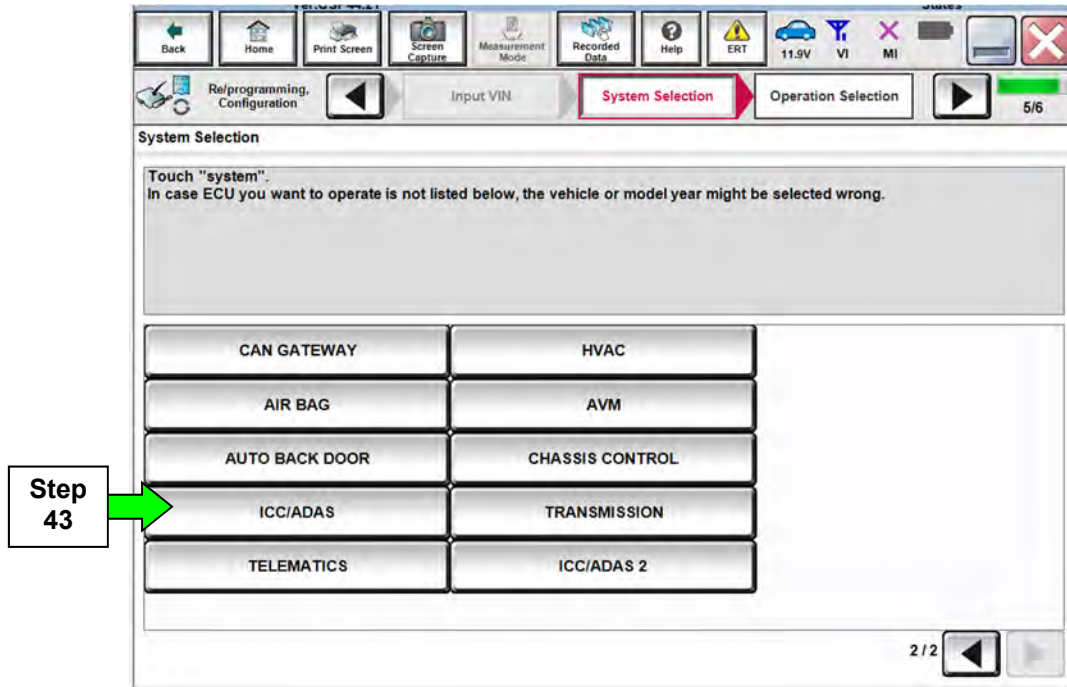

Figure 25
42. Refer to steps 1-17 starting on page 3 to navigate to Figure 25.